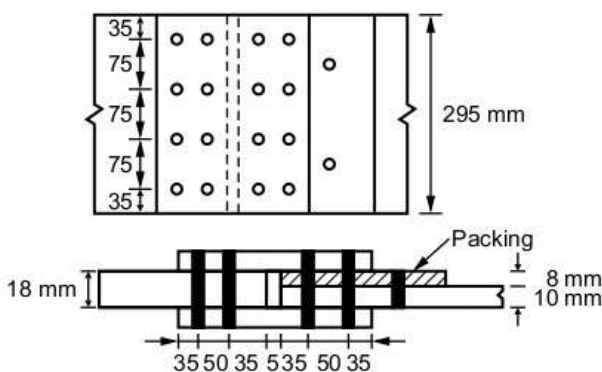

Fig. Q.29.1
- Provide additional two bolts of 20 mm diameter on the packing plate as shown in Fig. Q.29.1.